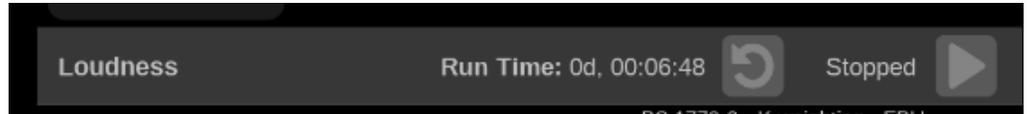

Figure 53: Loudness Display header
- To start and stop the loudness meter: select the  or  button. (See Figure 53.)